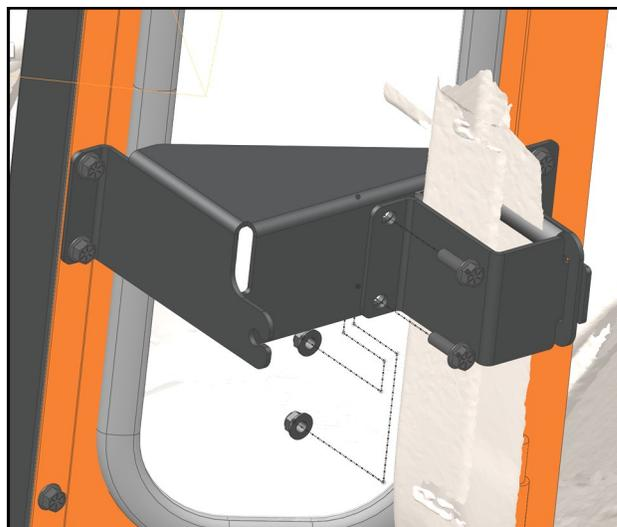

Fig. 4.3 (ROPS Bracket)
4.3 See fig. 4.3. Hook the ROPS bracket over the back of the ROPS mount, then bolt the front of the bracket to the mount with two bolts and nuts.